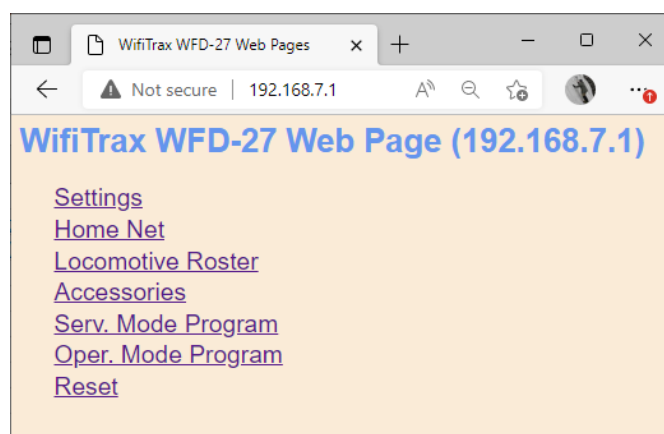

Figure 26 The WFD-27 Web Setup Main Menu
- (2) Run Engine Driver and on the Connect to Server page select the SNXXXXXXX entry in the Discovered Servers list. If you have changed the module name, your new module name will appear in this list instead.
- (3) Tap the “three dots” icon at the top right of the screen and select Web in the menu. You should now see the Web Setup Main Menu as in Figure 26. You can click or tap on any of the headings in the menu to access the setup for that feature. The section “Setup Advanced Features using a Browser” provides information about all of the menu options.
- (1) Connect to the Wi-Fi Access Point that your WFD-27 is using.
- (2) Run WiThrottle and the Connect to Server will display. Select the SNXXXXXXX entry in the Available WiThrottle Servers list. If you have changed the module name, your new module name will appear in this list instead.
- (3) You now should see the WiThrottle Address page. At the bottom there should be four tabs Throttle, Address (highlighted in blue), WebServer and Settings. Tap on the WebServer tab and you should now see the Web Setup Main Menu as in Figure 26. You can click or tap on any of the headings in the menu to access the setup for that feature. The section “Setup Advanced Features using a Browser” provides information about all of the menu options.
- (4) You should now see the Web Setup Main Menu as in Figure 26. You can click or tap on any of the headings in the menu to access the setup for that feature.
To modify General Settings, tap the Settings heading in Figure 26.
To change to Home Net mode, tap the Home Net heading in Figure 26.